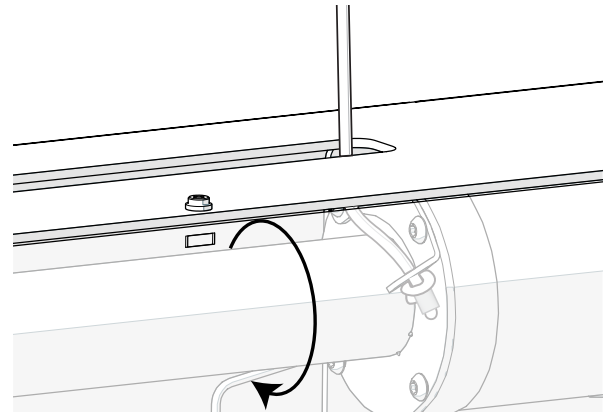

Fig. 15-1
- Using your fingers, guide the knotted cable end through the bottom of the cable retaining clip located on the right side of the cable spool. See Fig 15-1.